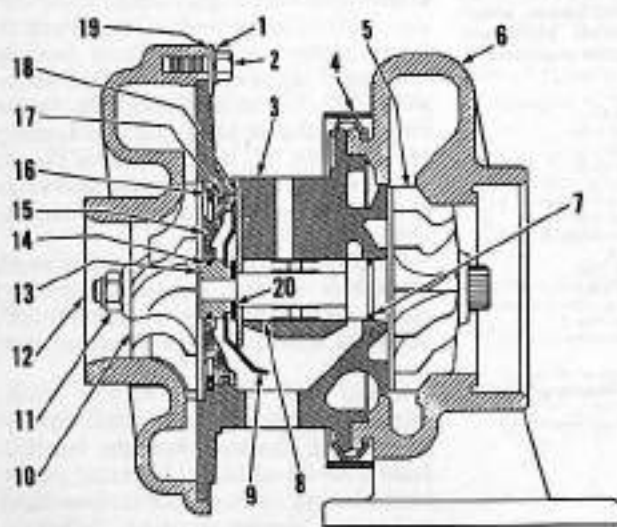

Fig. 77—Sectional view of Schwitzer turbocharger showing component parts and their relative positions.
**TURBOCHARGER.** Remove turbocharger as outlined in paragraph 149. Mark compressor cover, bearing housing and turbine housing for reassembly. Clamp turbocharger mounting flange (exhaust inlet) in vise and remove cap screws (2-Fig. 77), lockwashers (1) and clamp plates (19). Remove compressor cover (12). Remove nut from clamp ring (4), expand clamp ring and remove bearing housing assembly from turbine housing (6).
Remove locknut (11-Fig. 77) and slip compressor wheel (10) from end of shaft. Withdraw turbine wheel and shaft (5) from bearing housing. Place bearing housing on bench with compressor side up. Remove snap ring (16) and pry flinger plate insert (15) from bearing housing. Push spacer sleeve (13) from insert. Remove oil deflector (9), thrust ring (20), thrust plate (18) and bearing (8). Remove "O" ring (17) from flinger plate insert (15) and remove seal rings (14) from spacer sleeve and turbine shaft.